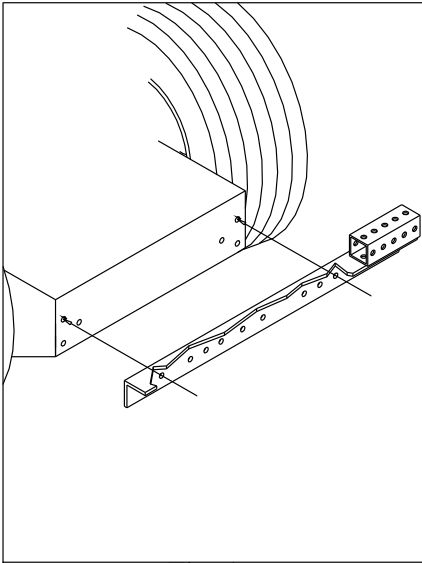

Fig. 1
1. Locate hitch (32) across rear of mowing machine. Most mowers have holes that match holes in hitch; however, it is advisable to drill on far right of some models. (Fig. 1.) Secure with a minimum of three (3) bolts provided.